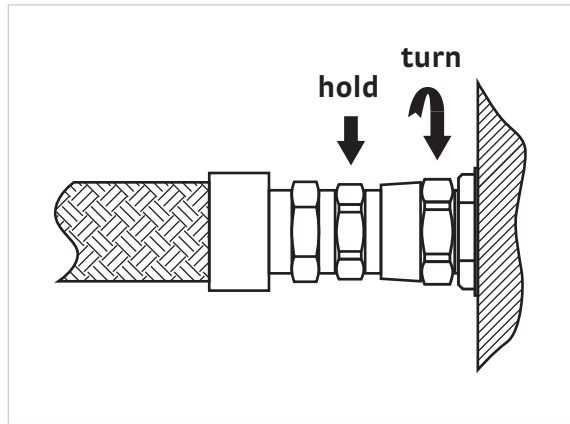

FIGURE 3-24 Placement of wrenches on the self-sealing nut
3. Check that the flat rubber gaskets are clean and in place on each supply/return connection on the compressor and cold head (FIGURE 3-24).
- b. Using the two wrenches provided in the CCR tool set, tighten the self-sealing nut. Hold the nut with one wrench and turn with the other as shown in FIGURE 3-24. Do not over tighten; the maximum allowable torque is 50 Nm.